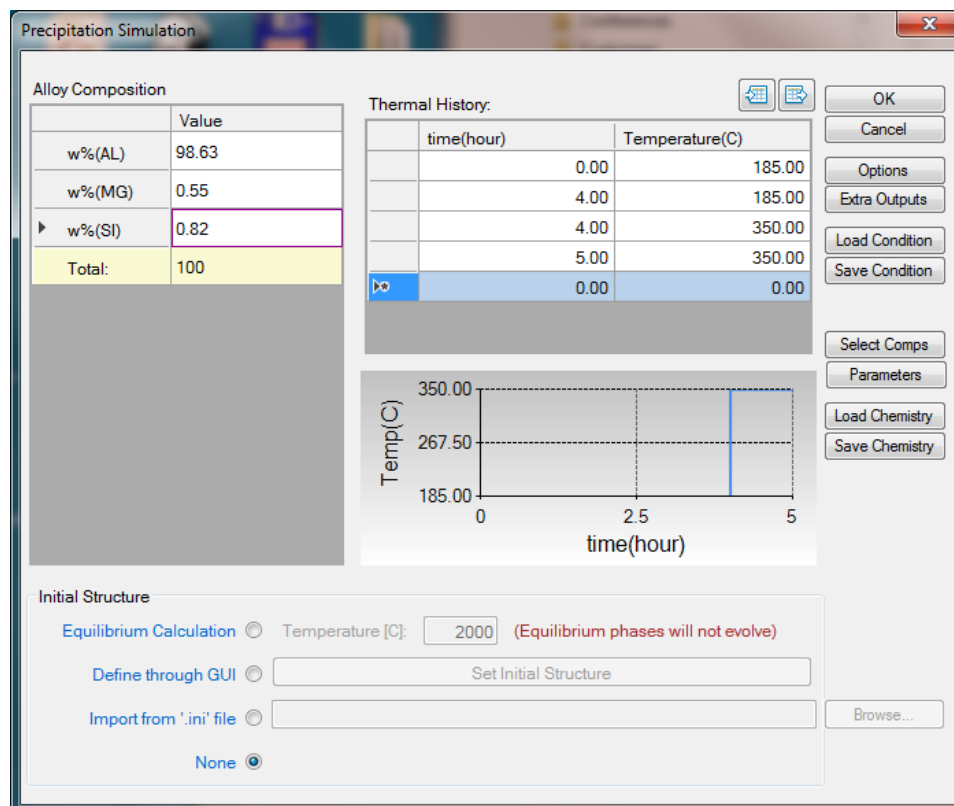

Figure 3.5.1: Setup heat treatment condition as ageing at 185°C for four hours and then quickly heat up to 350°C and hold for 1 hour
- Click on PanPrecipitation->Precipitation Simulation, and set up the calculation condition as shown in Figure 3.5.1;